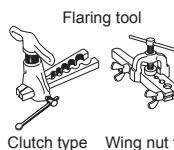

Fig. 4
- 3) Flaring work (Fig. 4, 5). Firmly hold copper pipe in the dimension shown in the table. Select A mm from the table according to the tool selected.